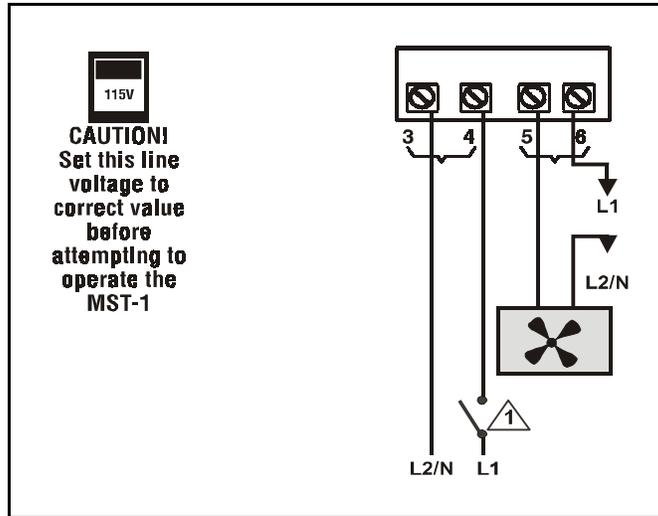

Fig. 1
Refer to Figures 1, and 2.
For the connection procedures which follow refer to Figures 1 and 2.
**Note for figures 1, and 2**